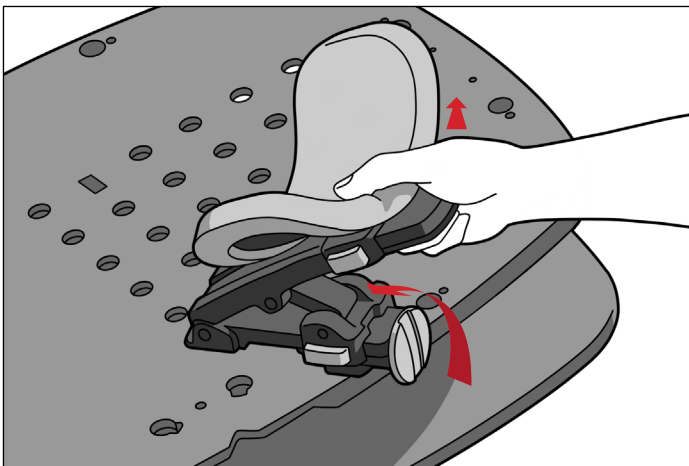

FIG. 23
1. Remove Arm Support(s) by loosening the knob, rotate the Arm Support so that it lines up with the notch at the side of the Patient Surface and pull the Arm Support out of the holes in the Patient Surface. (Fig. 23)